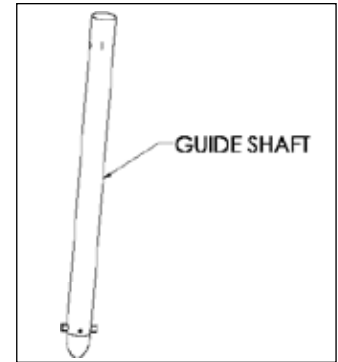

Figure 12. Removing Guide Shaft from Shipping Container.
9. Remove the Standard Guide Shaft Platinum Series 39" or Extended Guide Shaft Platinum Series 51" from the shipping container. See Figure 12.